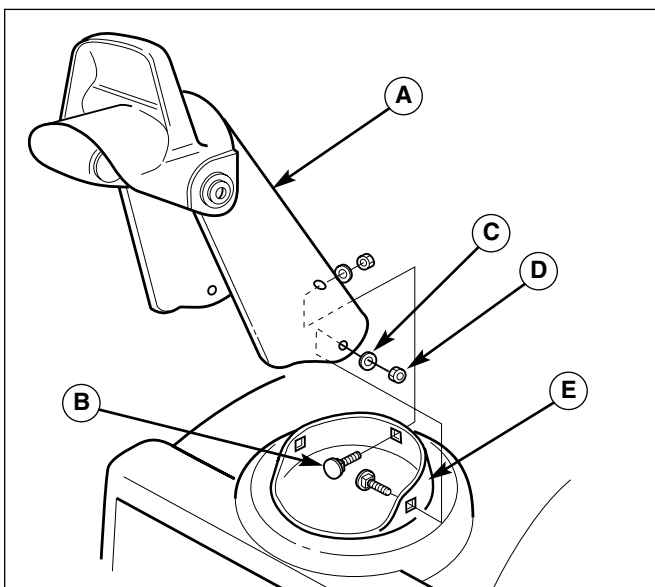

Figure 1. Assembly of Discharge Chute
2. Install the discharge chute on to the rotating ring located on the auger housing. Secure with the three 5/16 inch carriage bolts, flat washers and nylok nuts found in the parts bag (the bolt heads go to inside of the rotating ring, with washers and nuts on the outside). Refer to Figure 1.